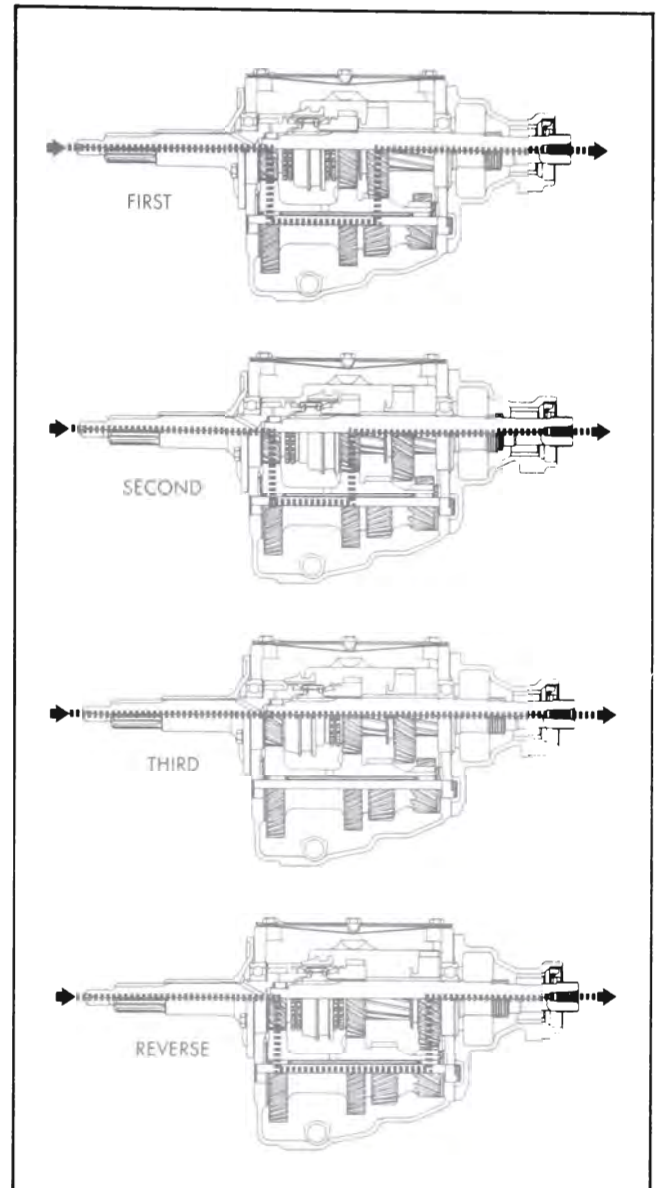

Figure 4-9—Power Flow Through Transmission
1. In first speed, the first speed sliding gear is slid forward on the mainshaft splines so that it engages its corresponding gear on the counter gear. See Figure 4-9 to follow the power flow.
2. In second speed, the clutch sleeve is slid rearward on the synchronizer hub so that it first synchronizes the speed of the second gear, then engages the projecting teeth on the second gear. See Figure 4-9.
3. In third speed, the clutch sleeve is slid forward on the synchronizer hub so that it first synchronizes the speed of the drive gear, then engages the projecting teeth on the drive gear. See Figure 4-9.